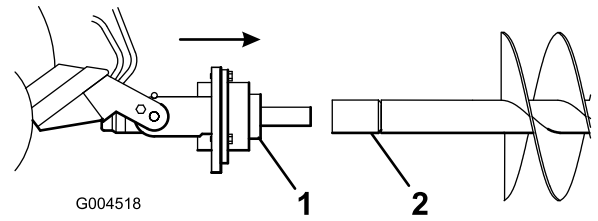

Figure 7
- Maneuver the drive shaft into the end of the auger shaft or extension (if applicable) as shown in Figure 7.